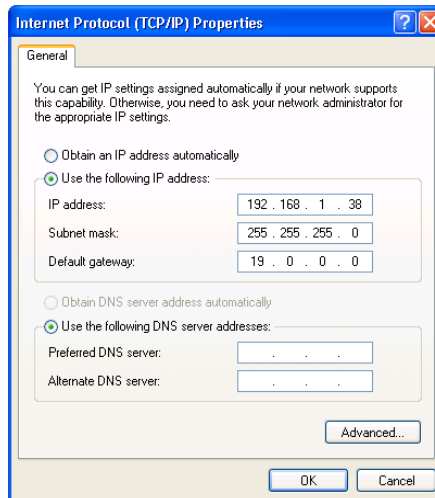

Figure 7: Internet Protocol (TCP/IP) Properties Window
7. Select **Use the following IP address**, and fill in the details as shown in Figure 7. You can use any IP address in the range 192.168.1.1 to 192.168.1.255 (excluding 192.168.1.39) that is provided by your IT department.